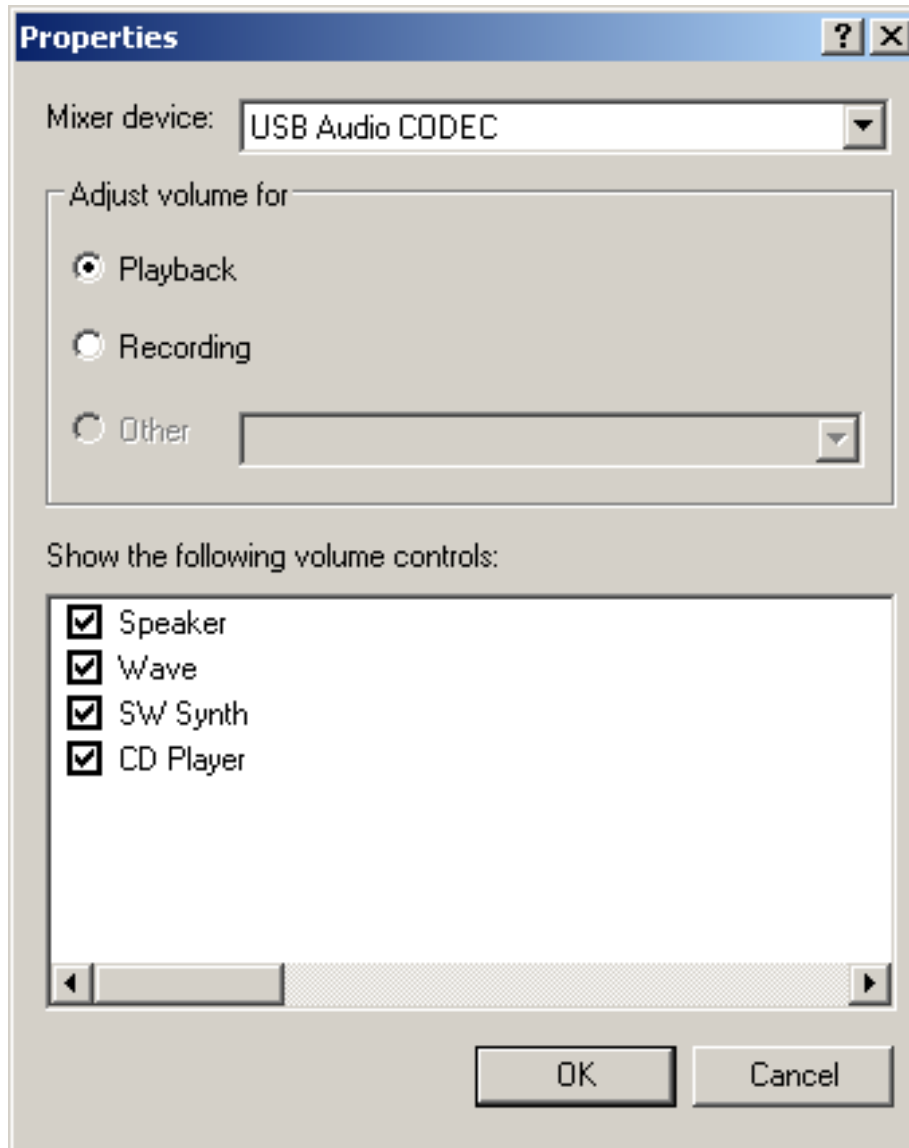

Figure 2 –Properties Window
- The Properties window should now look like the one shown below in Figure 2. Verify that it does and then click OK